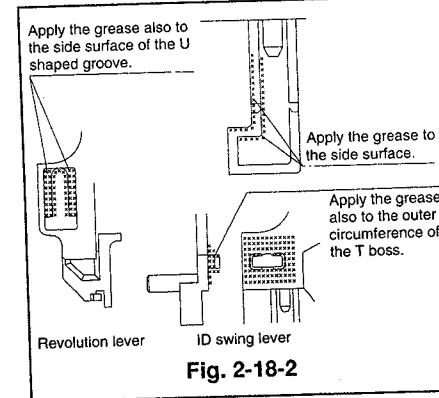

Fig. 2-18-2
- ① Apply the grease(PG-641)[B59D055O30] to the areas shown in Fig. 2-18-2 of the new revolution lever and the ID swing lever.